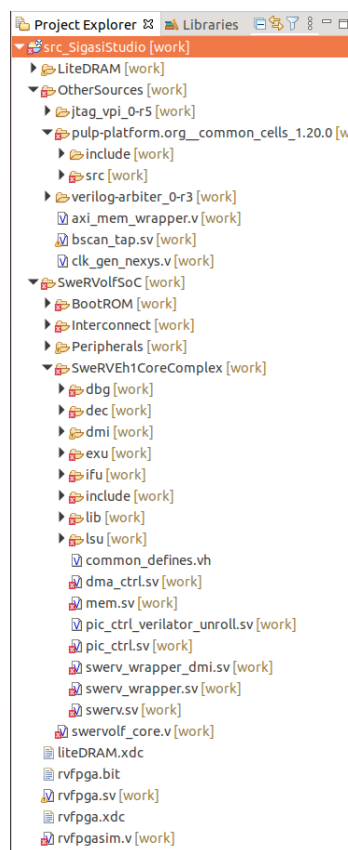

Figure 5. Initial errors in the RVfpga Sigasi Studio Project.
- The project will open with many errors (see Figure 5), most of them due to the lack of many include files in the project configuration.